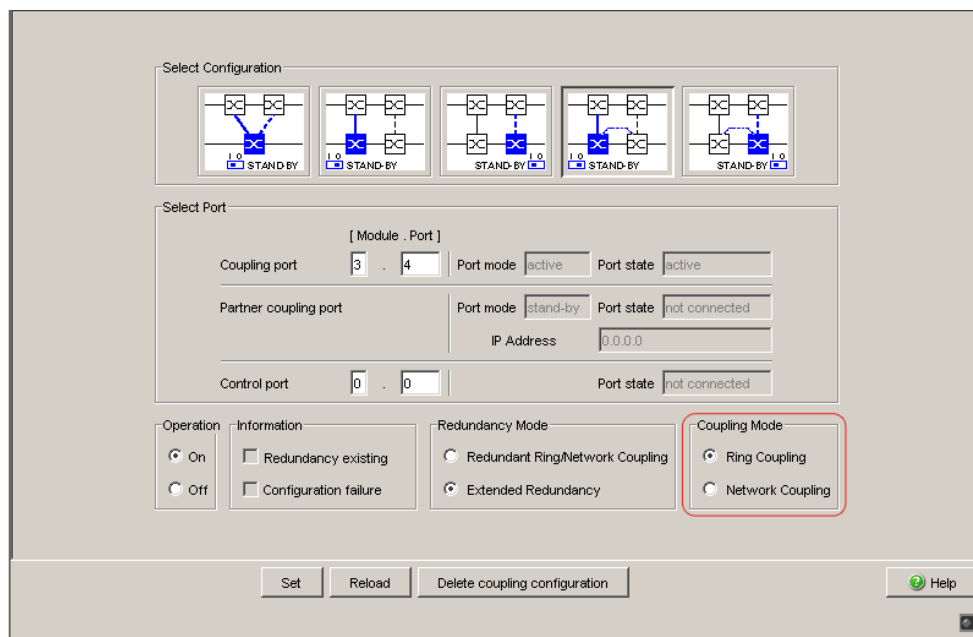

Figure 42: Selecting the coupling mode
- ☐ In the “Coupling Mode” frame, select (see fig. 42)